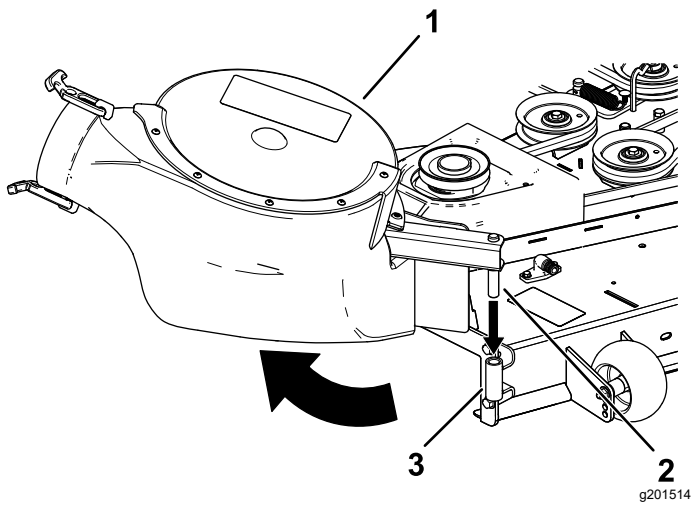

Figure 23
- Insert the blower pivot pin into the blower support and rotate the blower assembly inward toward the machine (Figure 23).